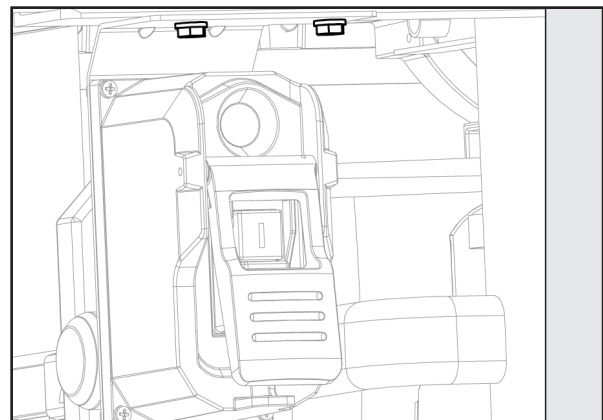

FIGURE 14
1. Attach the fence guide to the front rail using four (for 30" versions) six (for 52" versions) 1/4-20 x 1/2inch hex button head screws and 1/4-inch spring washers through the holes (B) on the bottom side of the front rail.
2. A align the two holes in the power control box bracket with the holes underneath the front rail, shown in Figure 14 (C), located on the left side of the saw. Secure the power control box to the front rail using two 1/4-20 x 1/2-inch hex head cap screws with spring washers .